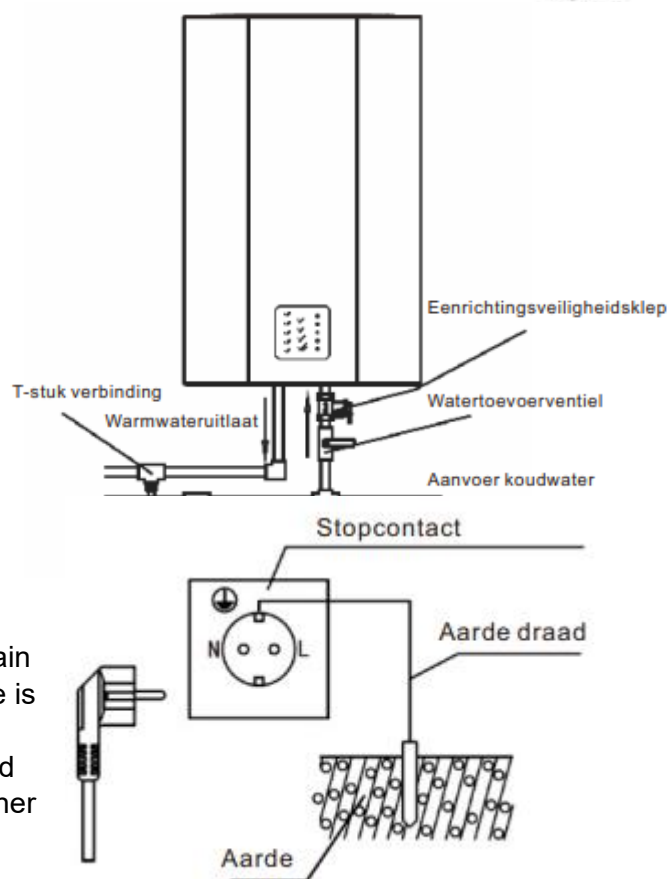

Figure 5
- 2) After confirming that the ratings of electricity meters, wires, switch sockets and fuses in the power system meet the energy consumption requirements of this product, connect a separate socket in a suitable place to supply power to the electric boiler (Fig. 5). The installation height of the socket from the ground should not be less than 1.8 m.